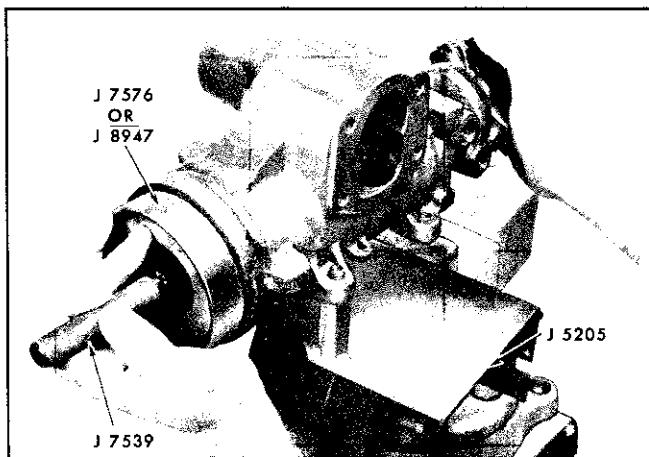

Fig. 9-68 Installing Rack Piston Nut
2. Holding Teflon ring compressor sleeve tool J 8947 or J 7576 tightly against the shoulder of gear housing, insert the rack-piston nut and arbor into housing holding the arbor (tool J 7539) until arbor contacts worm end. See Fig. 9-68. Use tool J 8947